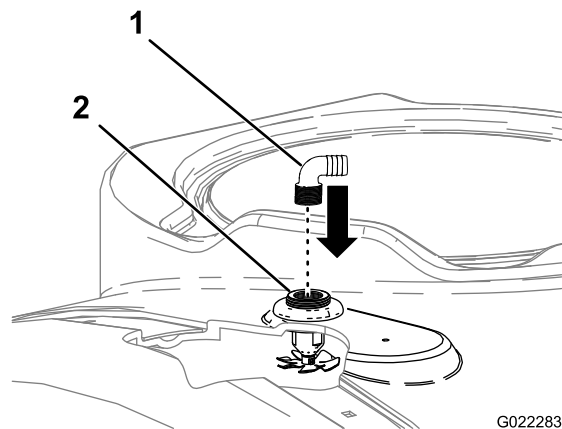

Figure 7
- 4. Install a 90° barbed fittings into the threaded openings in each of the rinse-nozzle-bulkhead fittings (Figure 7).